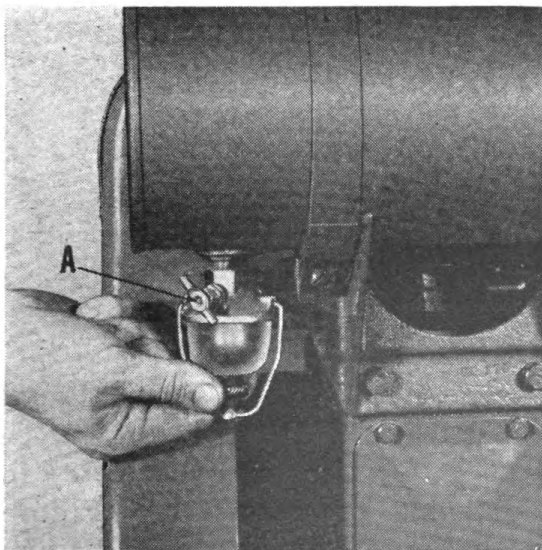

Figure 40
c. Clean fuel filter (See Figure 40) when it appears dirty. The shut-off valve ("A" Figure 40) should be closed before removing bowl.
2. Remove and clean fuel filter and sediment bowl (See Figure 40).
a. Check fuel supply. If gasoline in tank, make sure valve below tank is open (See Figure 9). Clean fuel filter (See Figure 40). Blow through gasoline line to carburetor to make sure that it is open.